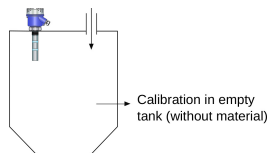

Figure 48: Calibration without Material
- Dip the Coat-Endure into test tank as shown in Figure 48.